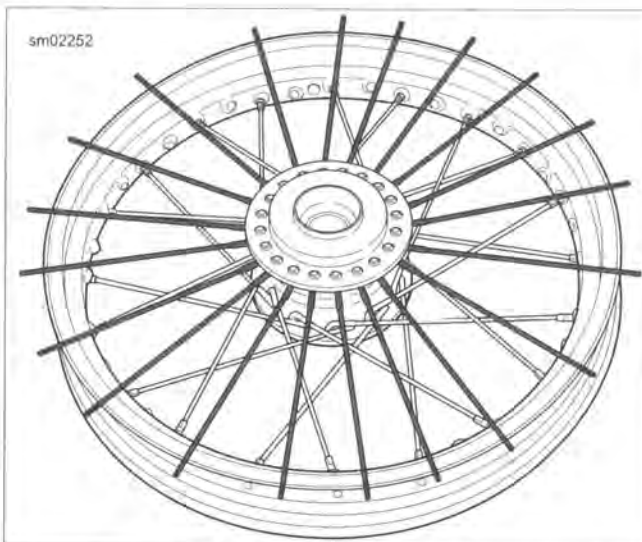

Figure 2-33. Fanning Top Flange Spokes
11. Beginning with 4th hole counterclockwise (2) from valve stem hole, install lower flange inner spokes (long head) in every 4th hole. Loosely install spoke nipples. Each inner spoke will cross four outer spokes.
12. See Figure 2-33. Carefully release each top bundle and fan the spokes around the rim edge.